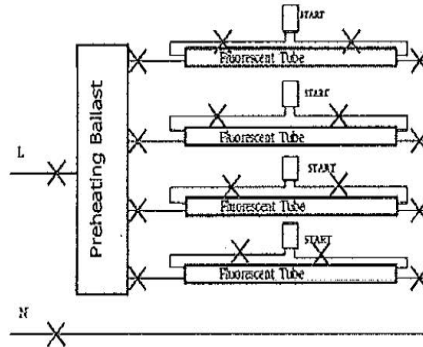

Fig. 3 (Removing Preheating Ballast) or
STEP 5: In accordance with the bellow drawing, cut off all wires connected to the ballast and starter (if provided), shown as below, Fig. 3 (Preheating Ballast) or Fig. 4 (Magnetic/Electronic Ballast):